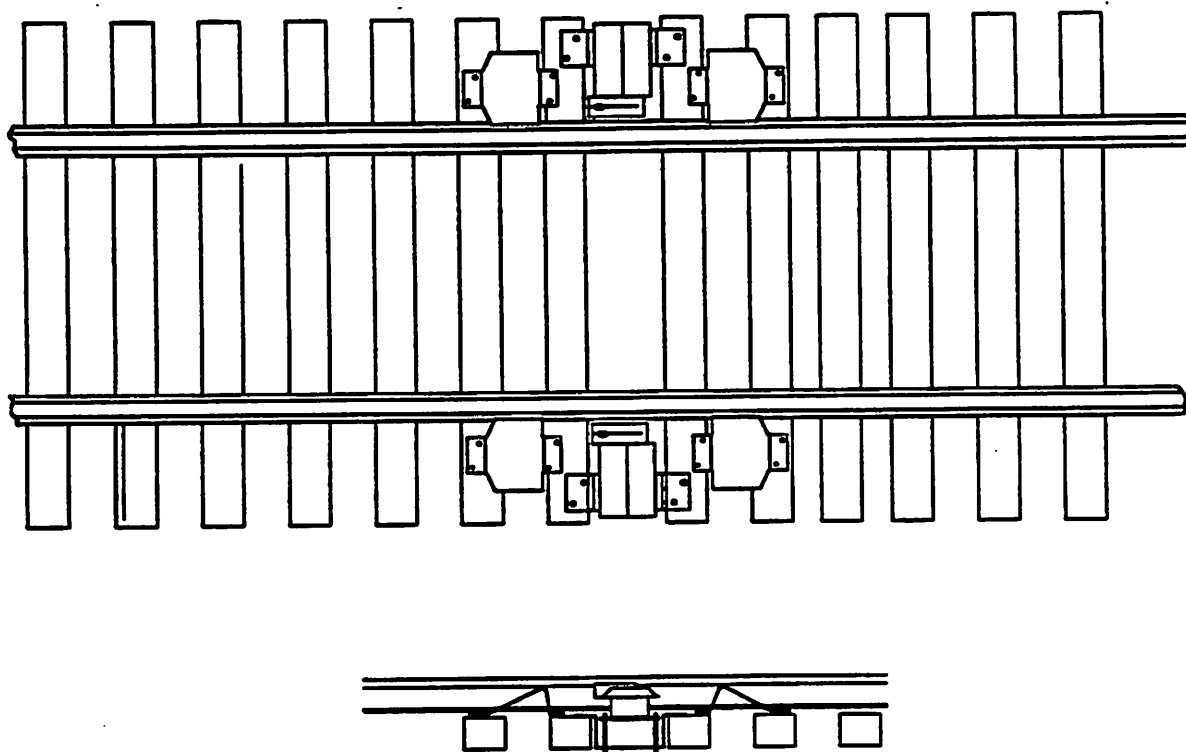

Figure 3 Placement of Tie/Ballast Mount Scanner Guards
7.1 Scanner guards are installed on either side of a rail mount scanner to prevent damage from dragging equipment. A typical installation is shown in figure 3.